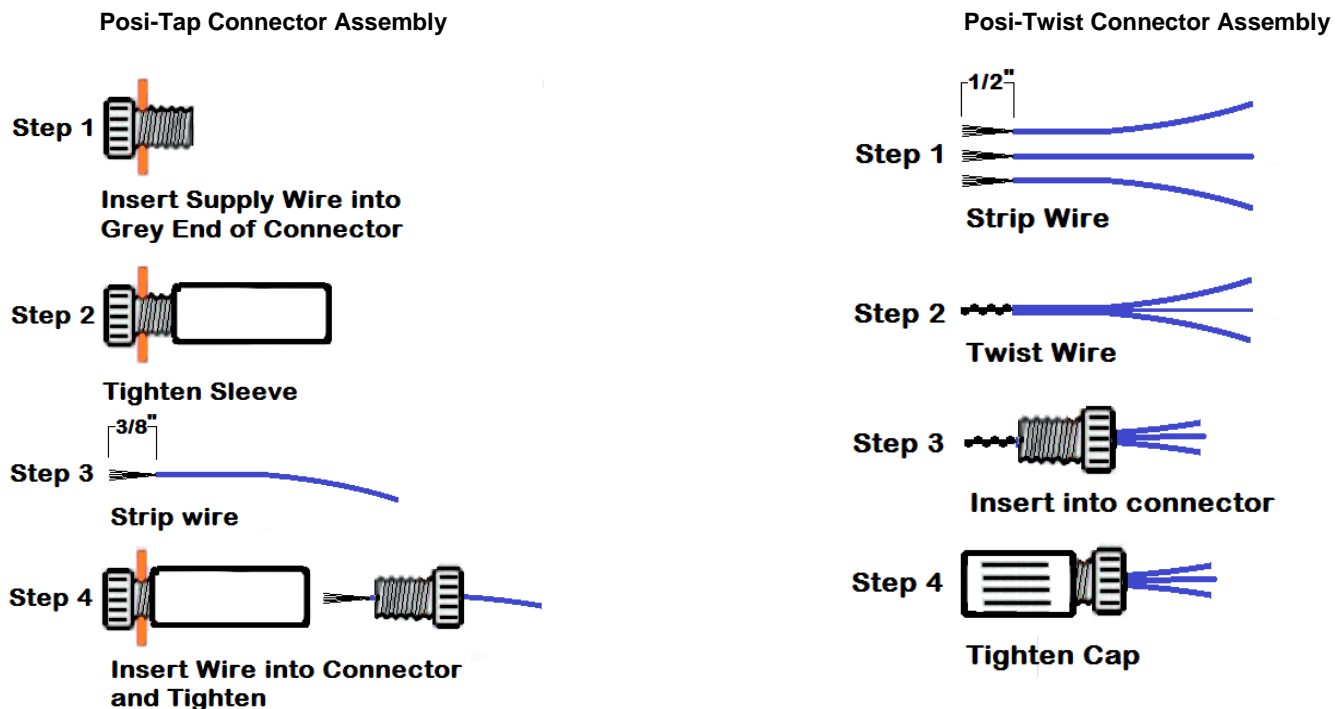

Figure 10
6. Connect one wire from each solenoid together with the large blue wire from the mini 2-stage progressive controller, using one of the provided Posi-Twist connectors (Figure 10).
7. Join the remaining two solenoid wires to the smaller blue wire coming from the relay harness using the other Posi-Twist connector (Figure 10).
12. Connect the "Earth" terminal on the NOS arming rocker switch (supplied black wire from step 2) to the digital ground wire coming from the 2-stage mini controller (small black wire) using one of the provided Posi-Tap connectors (Figure 10).